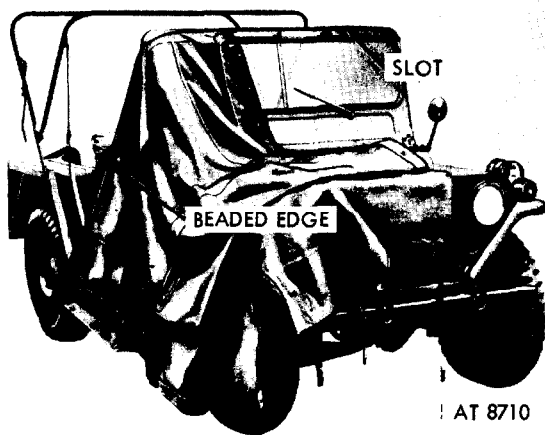

Figure 2-22. Canvas top unfolded.
h. Unfold the canvas top. Lay it over the right front fender and hood with button fasteners up (fig 2-22). Start the beaded edge of the canvas top through the slot at top of the windshield.